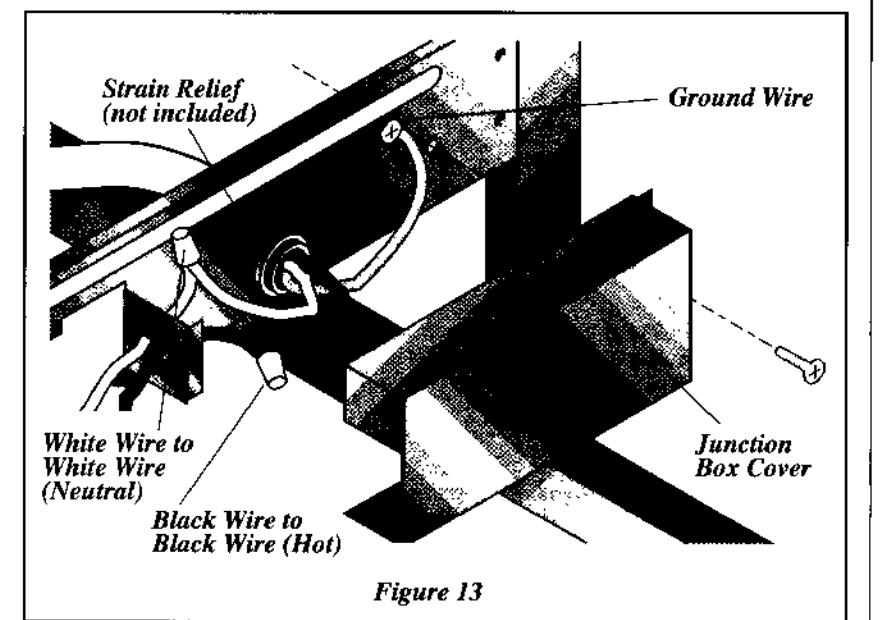

Figure 13
- Inside junction box, attach ground wire under head of grounding screw and tighten. See Figure 13.
- Replace junction box cover. See Figure 13.